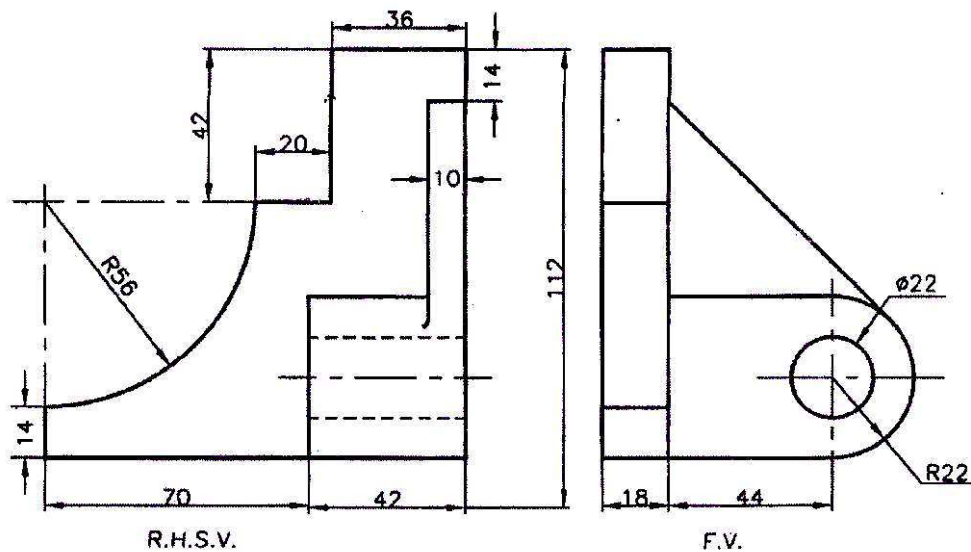

Fig. 6
8. The following Fig. 6 shows Elevation and Right hand side view of the object. Draw its Isometric View. Retain all the constuction lines and construction you have made. [17+3=20]